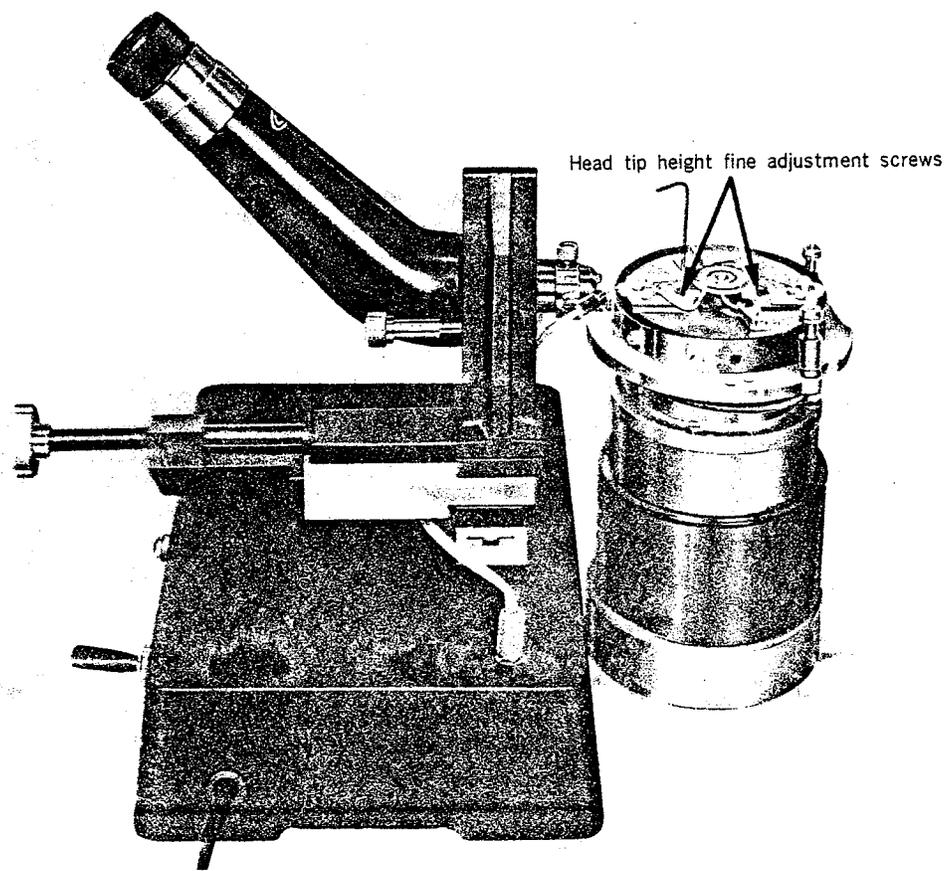

Fig. 9 Head Height Adjustment
- (d) Regulate each of the head tip height fine adjustment screws so that the head tip height is within a range of from  $450 \mu$  to  $460 \mu$  from the upper end of the lower drum. (Ref. Figs. 9 and 10).